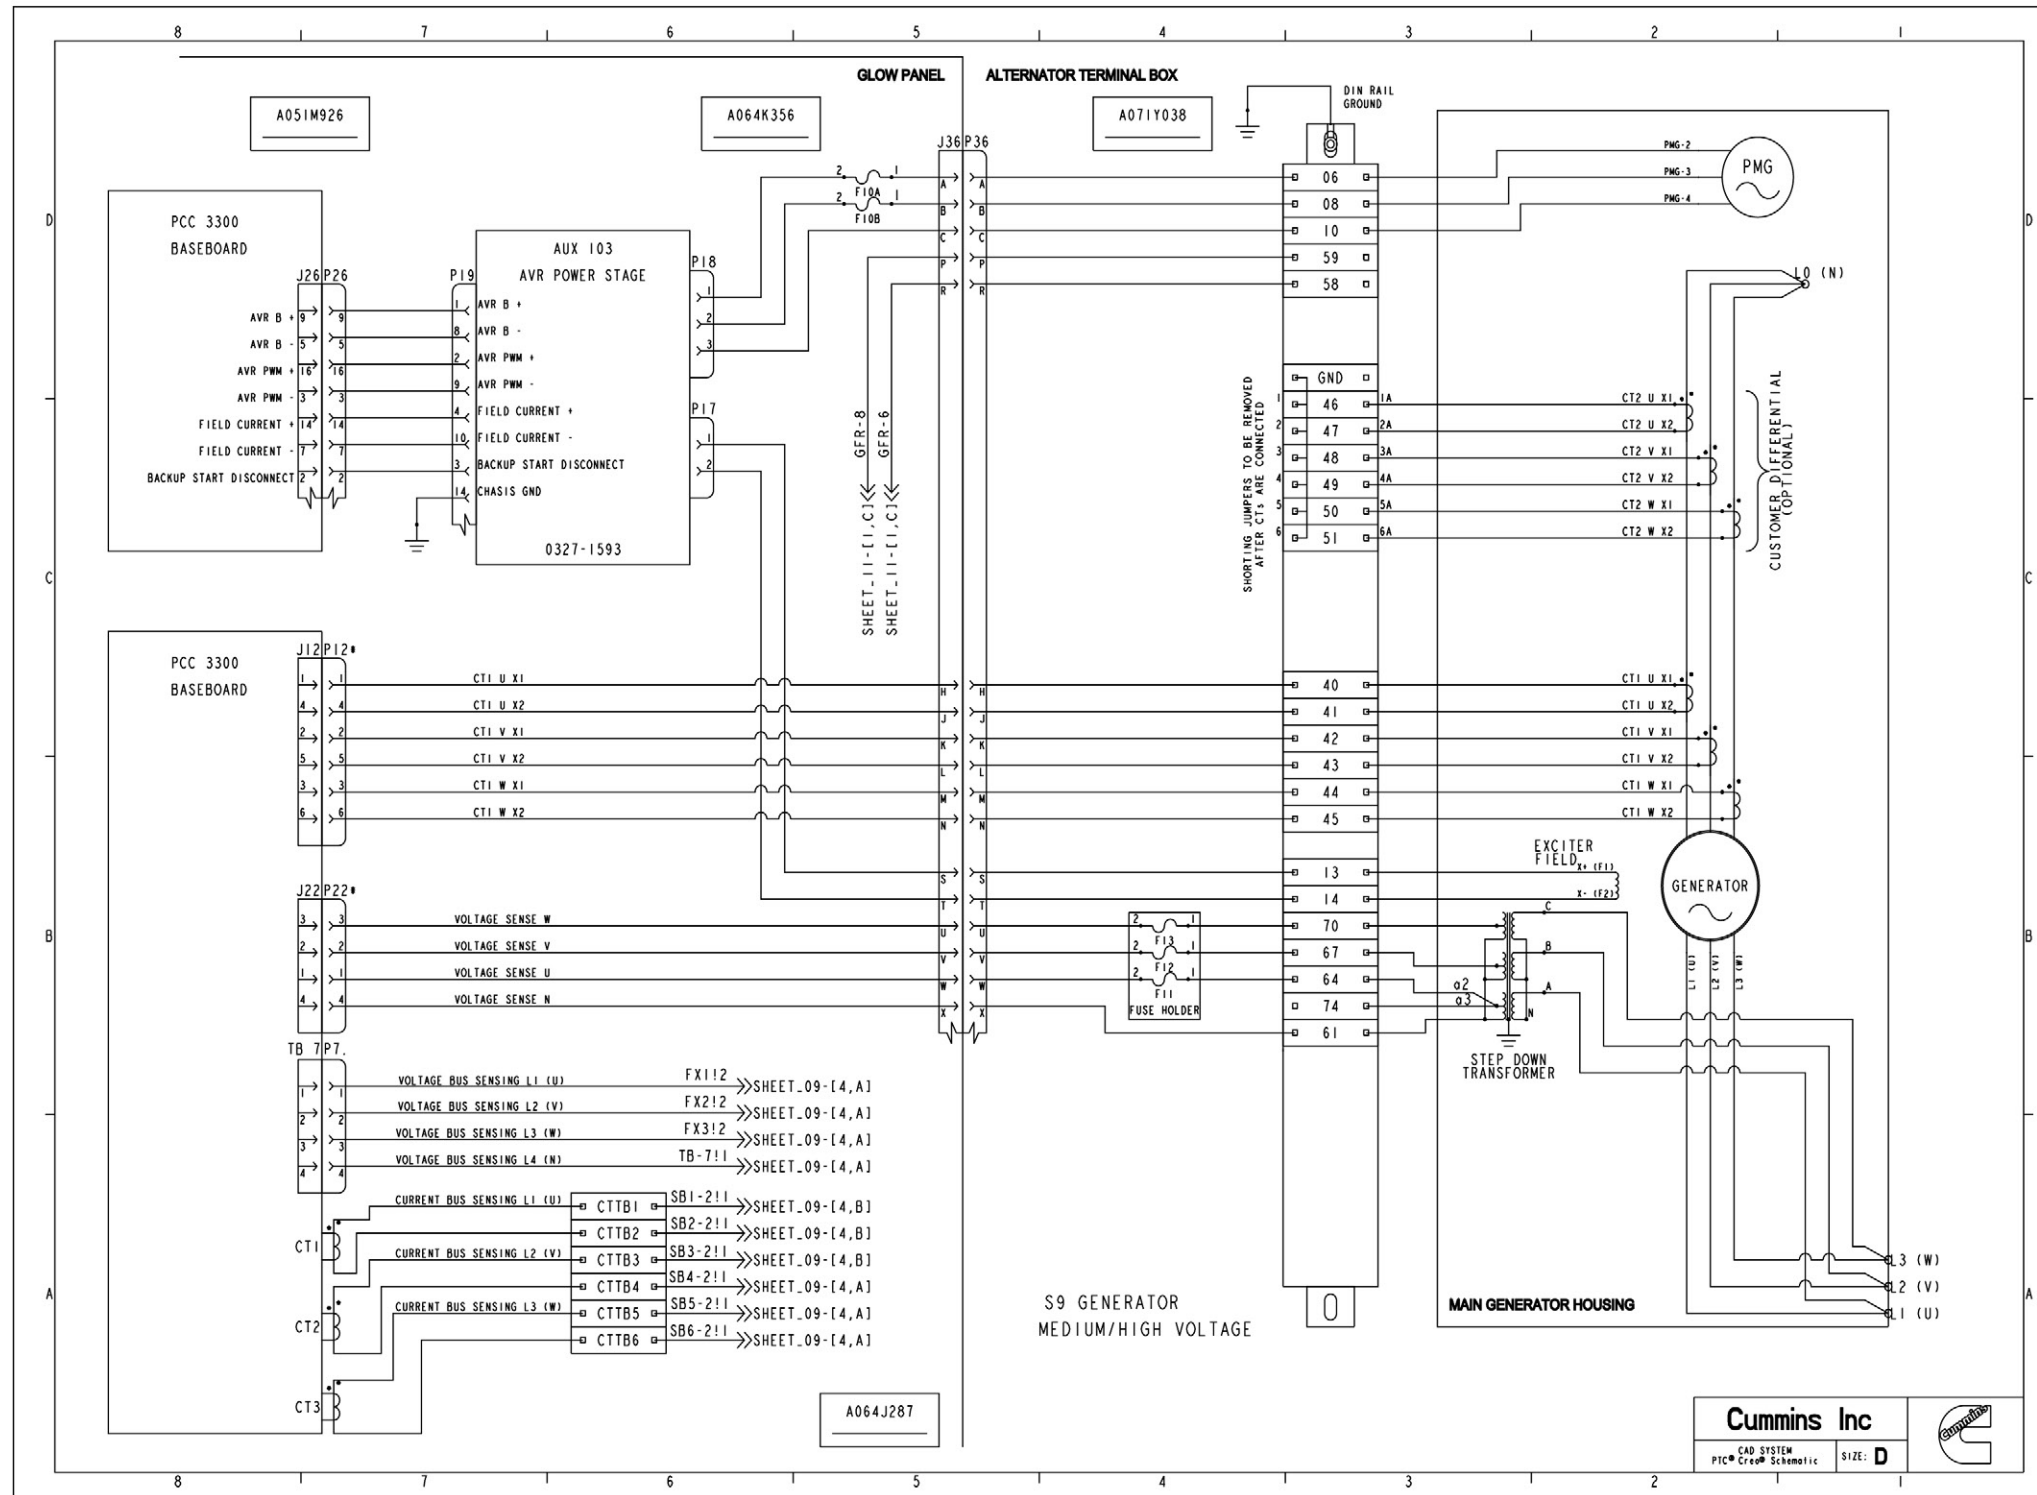

FIGURE 61. WIRING SCHEMATIC (SHEET 6)
- Figure 61. Wiring Schematic (Sheet 6) 116